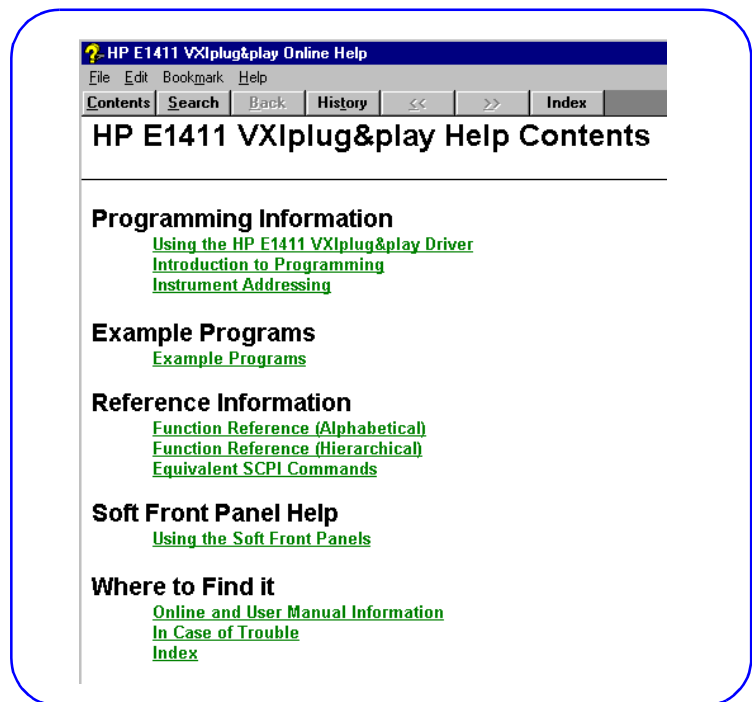

Figure 38. Typical VXIplug&play Help File Main Menu
- 2 For the first VXI instrument to be programmed, open the applicable instrument *VXIplug&play* Help File (*Start|Programs|Vxipnp|instrument help icon*). Figure 38 shows a typical *VXIplug&play* Help File main menu for the HP E1411 DVM that is displayed when you click *Start|Programs|Vxipnp|HP E1411 Help (32-bit)*.